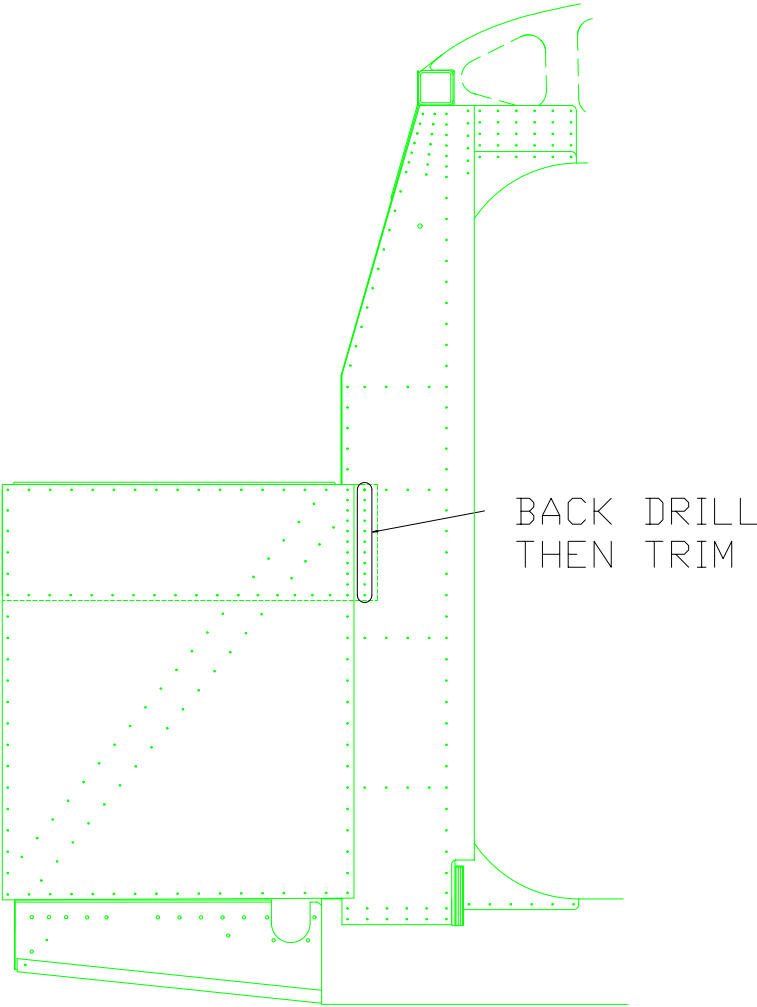

FIGURE 12
16) Cleco the side skins and doublers in place. The doubler now goes behind the side skin. The doubler aft end should go behind the post skin. Back drill the missing holes in the doubler. Figure 12.